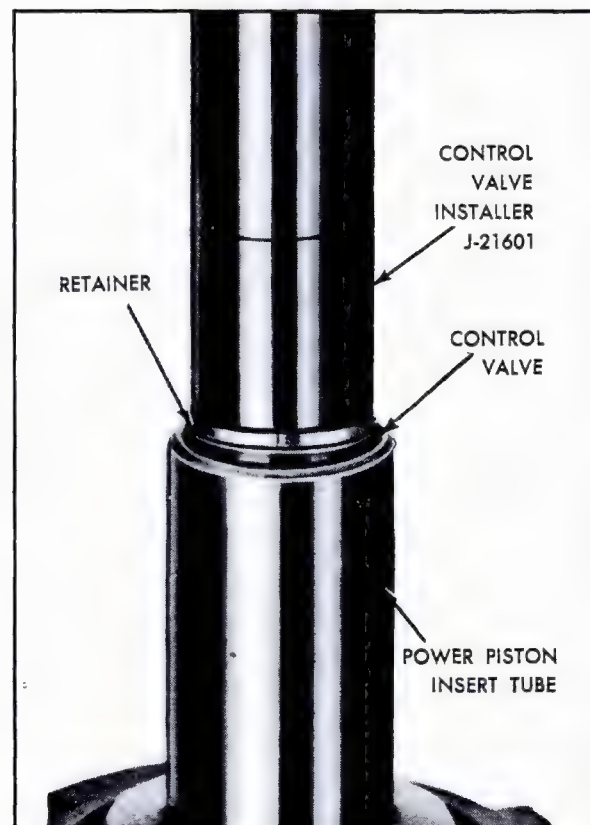

Fig. 5-25 Installing Control Valve Assembly
2. Position control valve and rod assembly in neck of power piston insert tube and position spring, cup and retainer on top of control valve. Using Control Valve Assembly Installer, J-21601, seat assembly in tube, Fig. 5-25.